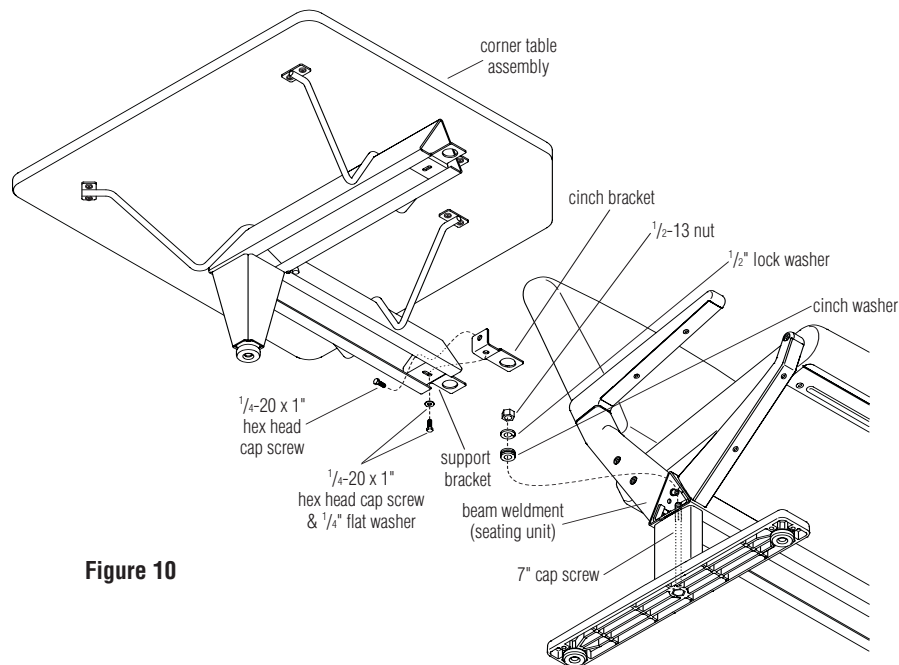

Figure 10
1. Remove the  $\frac{1}{2}$ -13 nut and  $\frac{1}{2}$ " lock washer from the 7" cap screw that secures the beam weldment to the foot. Insert a cinch washer over the threads of the cap screw body and replace both the lock washer and the nut. Tighten to secure (Figure 10).
2. Loosen the  $\frac{1}{4}$ -20 x 1" hex head cap screw on underside ends of the corner ganging table beam. Align the large diameter portion of the egg-shaped hole in the cinch bracket with hole in the support bracket and retighten the cap screw (Figure 10).
**NOTE:** To align the holes it may be necessary to loosen the  $\frac{1}{4}$ -20 x 1" hex head cap screw used to draw the beam weldments together. The cap screw is adjusted from the interior of the corner ganging table beam weldment (Figure 10).
3. Slowly lower the corner ganging table beam weldment onto the cinch washer. Loosen the  $\frac{1}{4}$ -20 x 1" hex head cap screw and washer on the underside end of the corner ganging table beam (Figure 10).
4. Draw the beams firmly together by tightening the  $\frac{1}{4}$ -20 x 1" hex head cap screw from the interior of the corner ganging table beam weldment. Retighten the socket head cap screw and washer that were loosened in step 3 above (Figure 10).